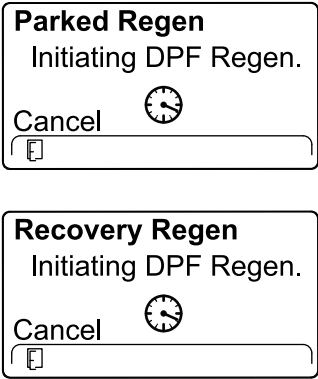

Figure 64
5. The InfoCenter displays the INITIATING DPF REGEN message (Figure 64).